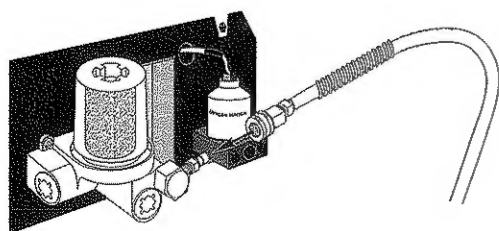

FIGURE 8:
4. Connect the sample hose to the analyzer at the **EXHAUST GAS** Input connector on the rear of the analyzer (see figure 8).